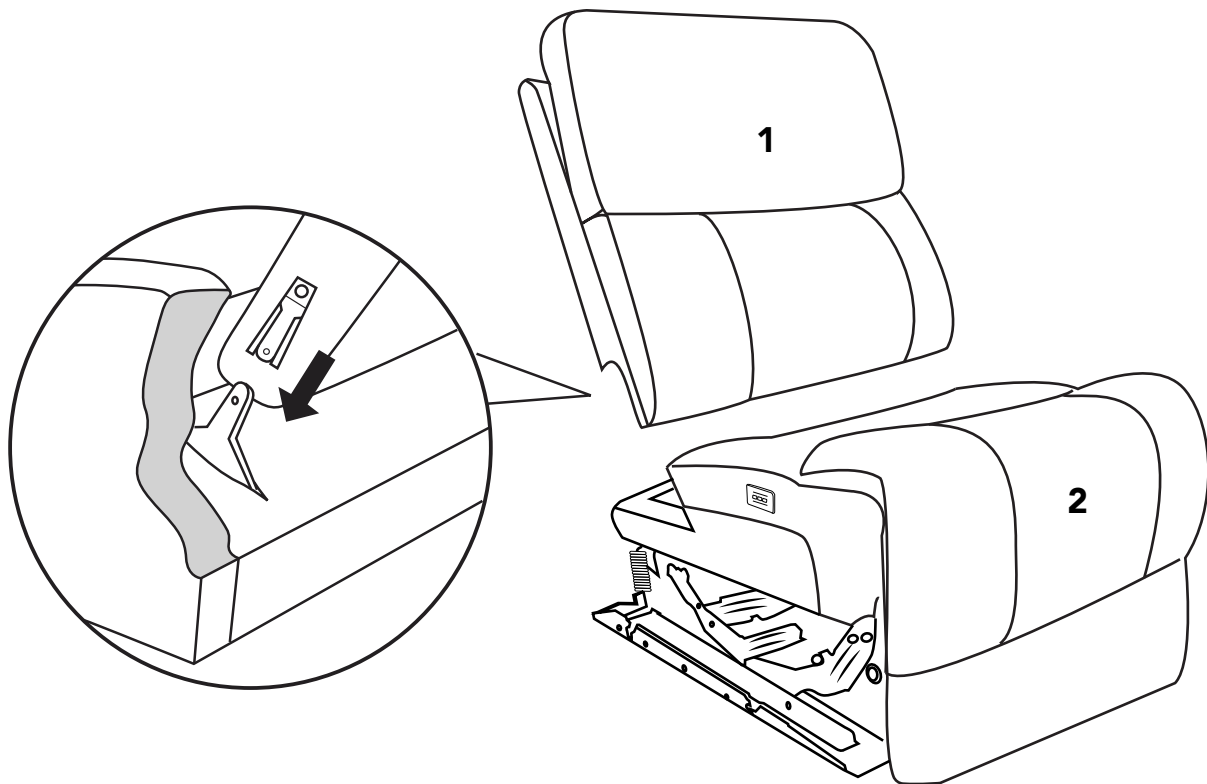

Figure 1.1
- 1** Attach the Back (1) to the Seat (2). Ensure the latches fit well. (See Figure 1.1)